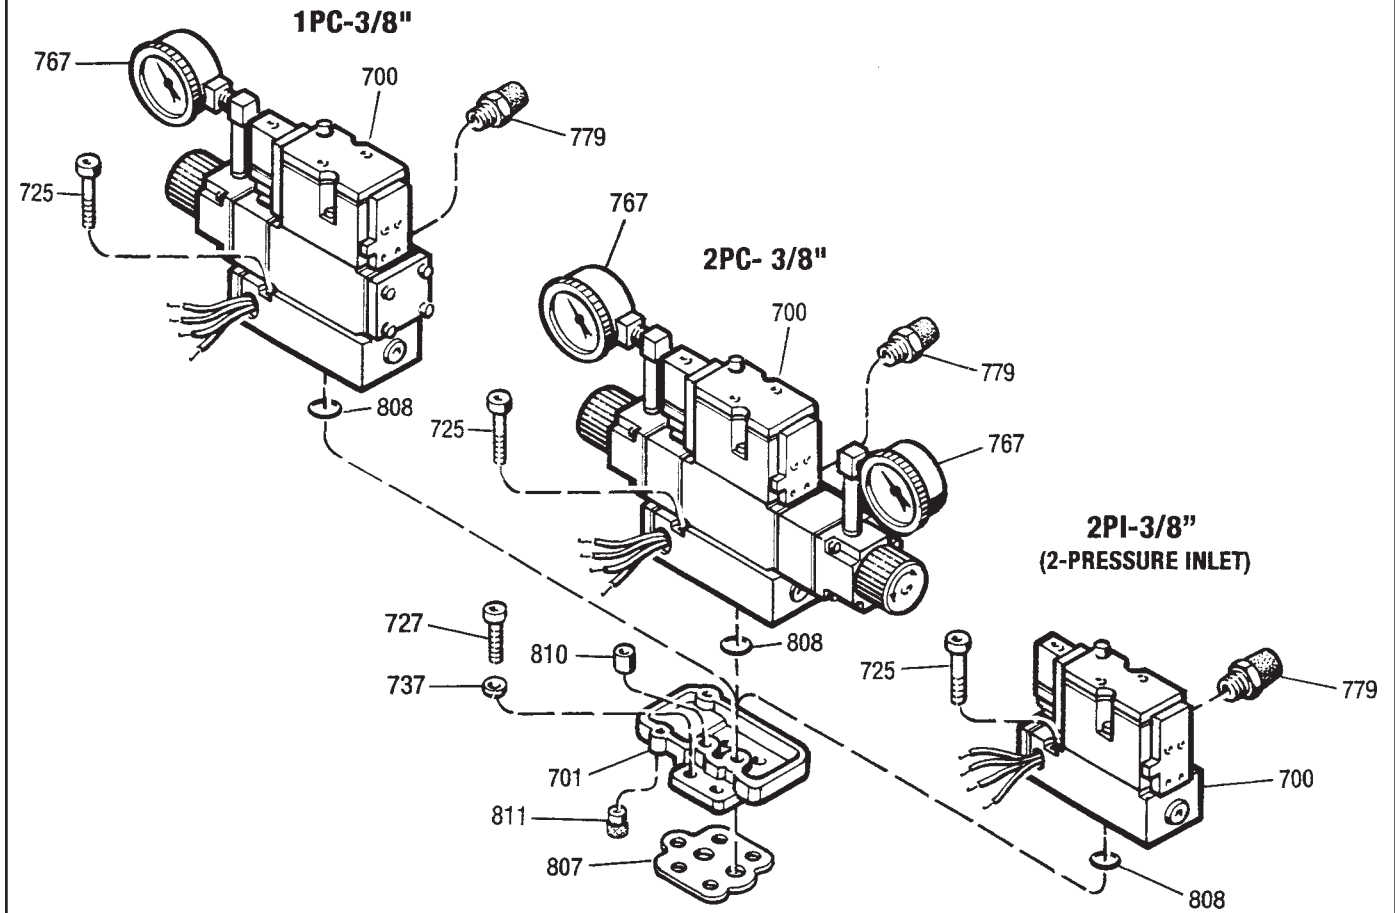

Figure 10.3 - Manifold Mounted Control Valves
**Repair Parts List - Figure 10.3**